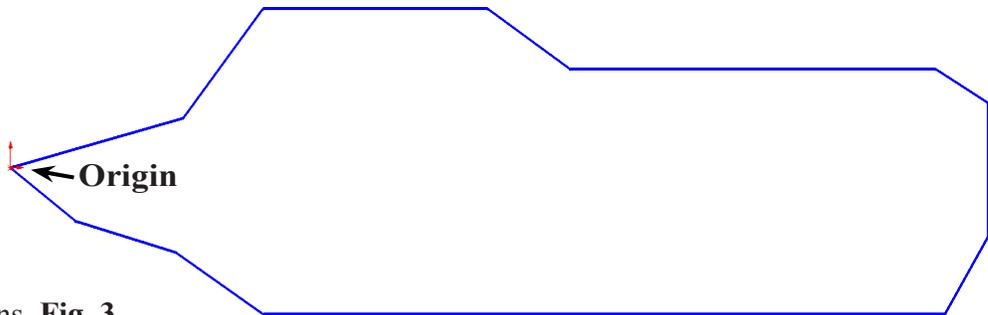

Fig. 2
Step 3. Click **Line**  (L) on the Sketch toolbar.
Step 4. Sketch the **12 chained lines** starting at the **Origin** , **Fig. 2**.